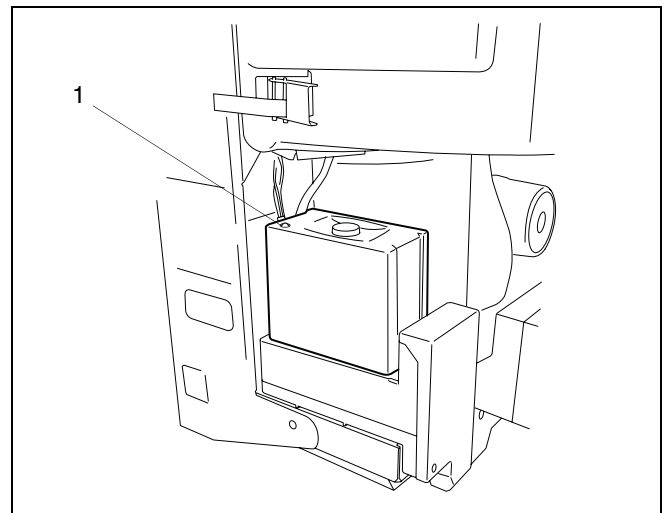

fig. 64 UBA 3
The LED on the UBA 3 (→ fig. 64, item 1) can also give useful information.